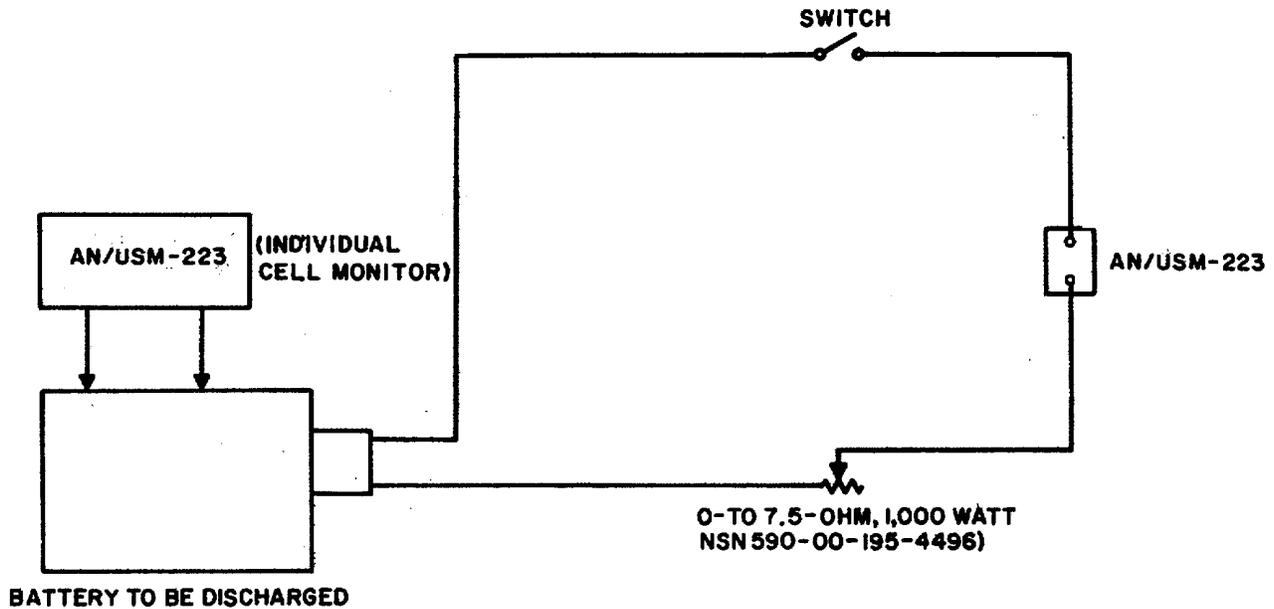

Figure 5-3. Discharging Connection Diagram.
- c. Discharge the battery using the proper load fixture and the instructions contained in (4) below. If a load fixture is not available then proceed as described in (1), (2), and (3) below.
- (1) Connect the 0- to 7.5-ohm, 1,000-watt variable resistor (item 8, app E), two Multimeters AN/USM-223, knife switch (item 7), and nickel cadmium battery to be discharged as shown in figure 5-3. (Be sure that the knife switch is in the open position.)
- (2) Close and open the knife switch as necessary while adjusting the 0- to 7.5-ohm variable resistor for a resistance value high enough to permit the discharge current to flow at approximately the 2-hour rate of the battery. Monitor the terminal voltage of each cell during discharge using the AN/USM-223. When the terminal voltage of a cell reaches 0 volts, place a shorting device